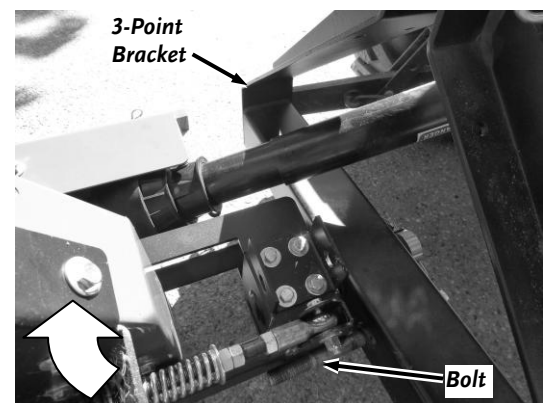

Figure 31
2. Lift the Trimmer Body up to a vertical position. With the head of the Bolt facing the Tractor, install the Bolt all the way into the transport hole of the 3-Point Bracket (**Figure 31**).